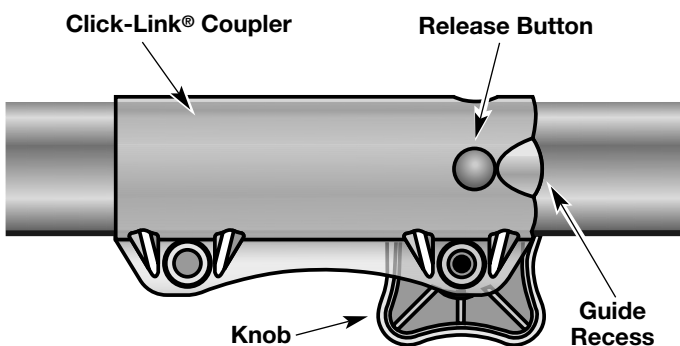

Fig. 1
1. Turn the knob counterclockwise to loosen (Fig. 1).
2. Press and hold the release button (Fig. 1).